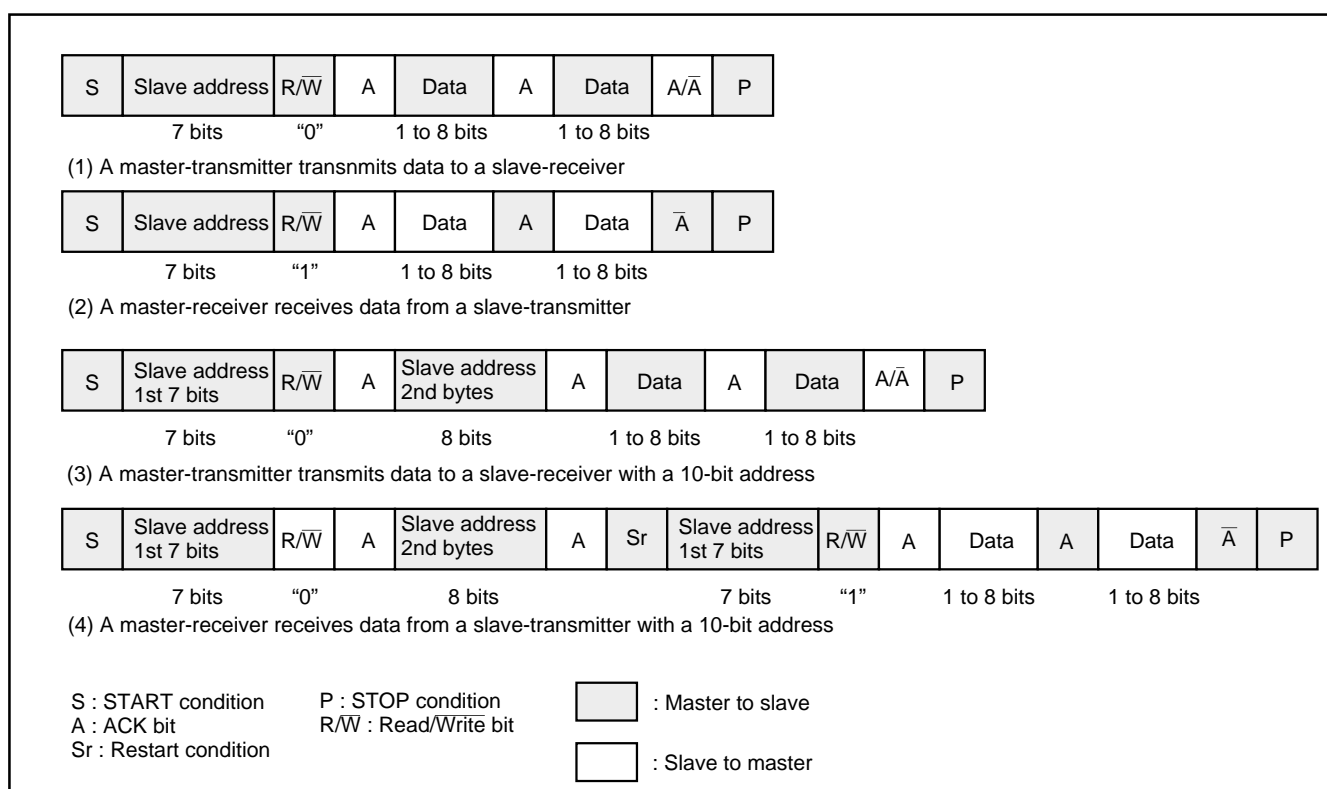

Fig. 39 Address data communication format
To adapt the 7-bit addressing format, set the 10BIT SAD bit of the I2C control register (address 002E16) to "0". The first 7-bit address data transmitted from the master is compared with the high-order 7-bit slave address stored in the I2C address register (address 002C16). At the time of this comparison, address comparison of the RWB bit of the I2C address register (address 002C16) is not performed. For the data transmission format when the 7-bit addressing format is selected, refer to Figure 39, (1) and (2).
When the first-byte address data agree with the slave address, the AAS bit of the I2C status register (address 002D16) is set to "1". After the second-byte address data is stored into the I2C data shift register (address 002B16), perform an address comparison between the second-byte data and the slave address by software. When the address data of the 2 bytes agree with the slave address, set the RWB bit of the I2C address register (address 002C16) to "1" by software. This processing can make the 7-bit slave address and R/W data agree, which are received after a RESTART condition is detected, with the value of the I2C address register (address 002C16). For the data transmission format when the 10-bit addressing format is selected, refer to Figure 39, (3) and (4).